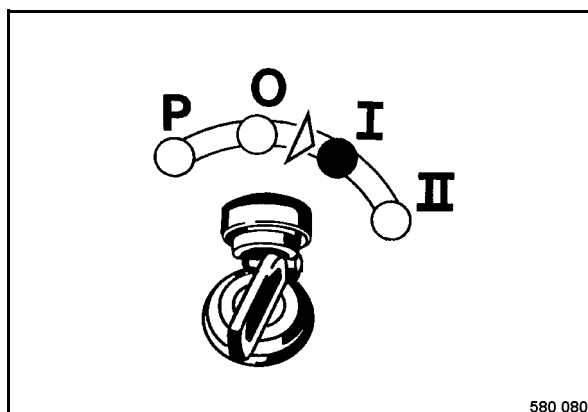

Fig. 88
- Turn the ignition key (Fig. 88) to position "I"